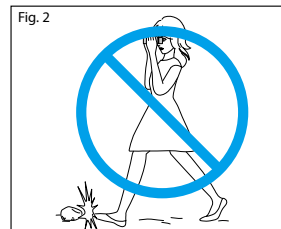

Fig. 2
- Do not look through the binoculars while walking. You may walk into something and get hurt. (Fig. 2)